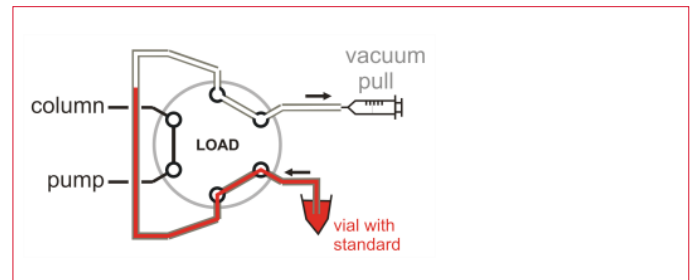

Figure 7: Schematic representation of 'backward aspiration' injection method on a sampling valve.
■ **Backwards aspiration - complete loop filling.** Disconnect the microdialysis tubing from the valve and connect a piece of tubing with a plastic syringe attached to the end (Fig. 7). Instead of connecting/disconnecting regularly and creating wear/tear, a manual micro switch like the CMA 110 Liquid Switch is advised. By pulling the plastic syringe, the liquid will move in reversed direction through the sampling loops. The outlet line must be used to aspirate calibration standards. It has to be taken into consideration that the efficiency of filling the loops is 100% in this way, which may not be the case when running the microdialysis set-up. The efficiency of loop filling during an experiment can be measured by comparing the response of a standard that is inserted in the loops by the backward aspiration method, and the response to the same standard, after inserting it in the glass syringe and inserting it automatically into the sample loops under the same conditions of microdialysis sampling. For any combination of microdialysis flow rate and time between injections, loop filling efficiency will be a fixed value throughout the experiment. Note that high loop filling efficiency is important to have enough sensitivity.